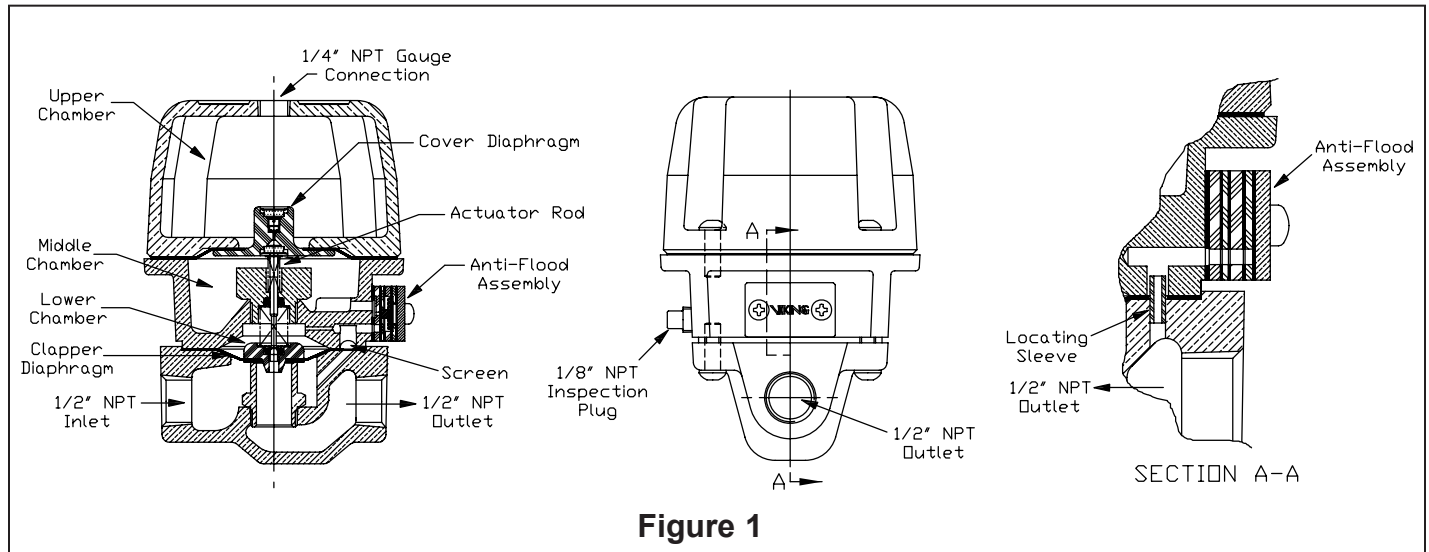

Figure 1
5. OPERATION (Refer to Figure 1.)